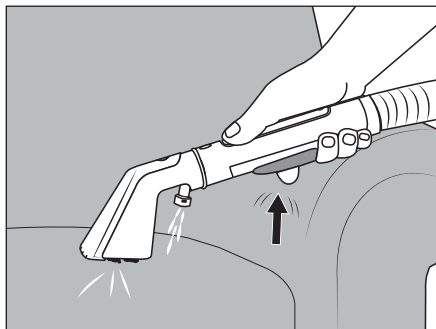

Fig. 6
- (2) Before cleaning, check the upholstery / carpet manufacturer's label for special care instructions. The appliance is not suitable for sensitive textile fabrics (e.g. silk, leather, flokati).
- (3) When using cleaning agents (vinegar-based cleaners and upholstery cleaning agents), always test how the appliance performs on an unobtrusive spot to ensure that no discolouration occurs.
- (4) The appliance must be properly assembled before operation, and the fresh water tank ②  must be filled.
- (5) Switch off the appliance before swapping the upholstery nozzle ②② and crevice nozzle ②⑨.
- (6) If the dirty water tank ⑦  is full, the float ⑥ closes the suction opening and the appliance runs at increased speed. Switch off the appliance immediately (see section **Cleaning the dirty water tank**).
- ◆ Fold the carrying handles ①⑧ upwards and carry the appliance to the place where you need it.
- ◆ Hold the upholstery nozzle 22 2–3 cm above the area to be cleaned and press the spray button 20 to apply water / cleaning solution from the spray nozzle 26 (see Fig. 6).